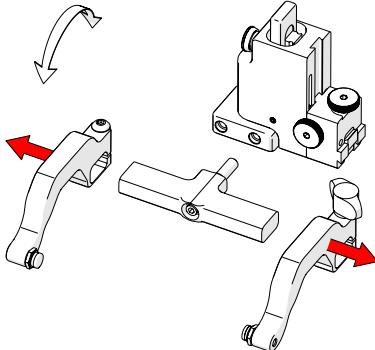

Fig. 129 - Remove probe holder arms
13. Loosen the arm clamp screw and probe holder arm adjustment knob allowing removal of the probe holder arms (Fig. 129).